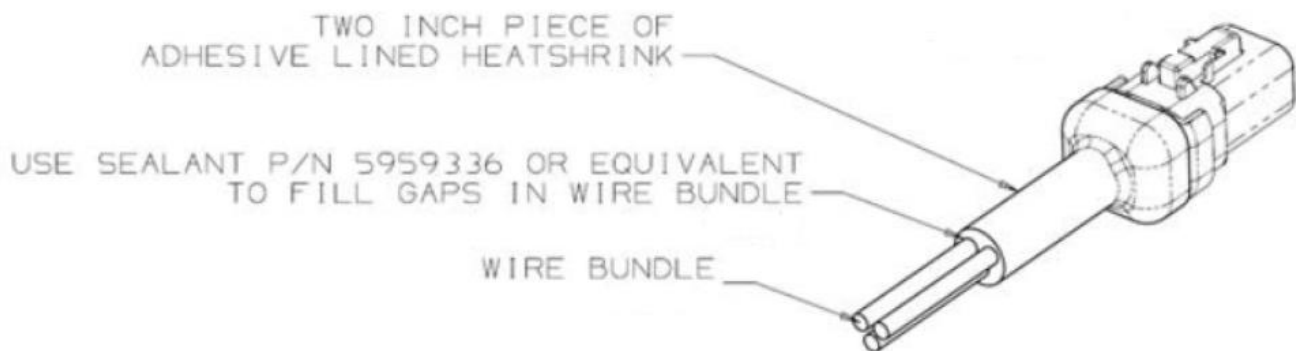

Figure 4: Apply Heatshrink and Sealant
8. Shrink the heatshrink, extending over the back of the connector and wire bundle. Use sealant (NF PN 5959336) or equivalent to fill gaps in wire bundle to ensure complete seal. See Figure 4.
11. Shrink the heatshrink, extending over the back of the connector and wire bundle. Use sealant (NF PN 5959336) or equivalent to fill gaps in wire bundle to ensure complete seal. See Figure 4.
18. Shrink the heatshrink, extending over the back of the connector and wire bundle. Use sealant (NF PN 5959336) or equivalent to fill gaps in wire bundle to ensure complete seal. See Figure 4.
21. Shrink the heatshrink, extending over the back of the connector and wire bundle. Use sealant (NF PN 5959336) or equivalent to fill gaps in wire bundle to ensure complete seal. See Figure 4.